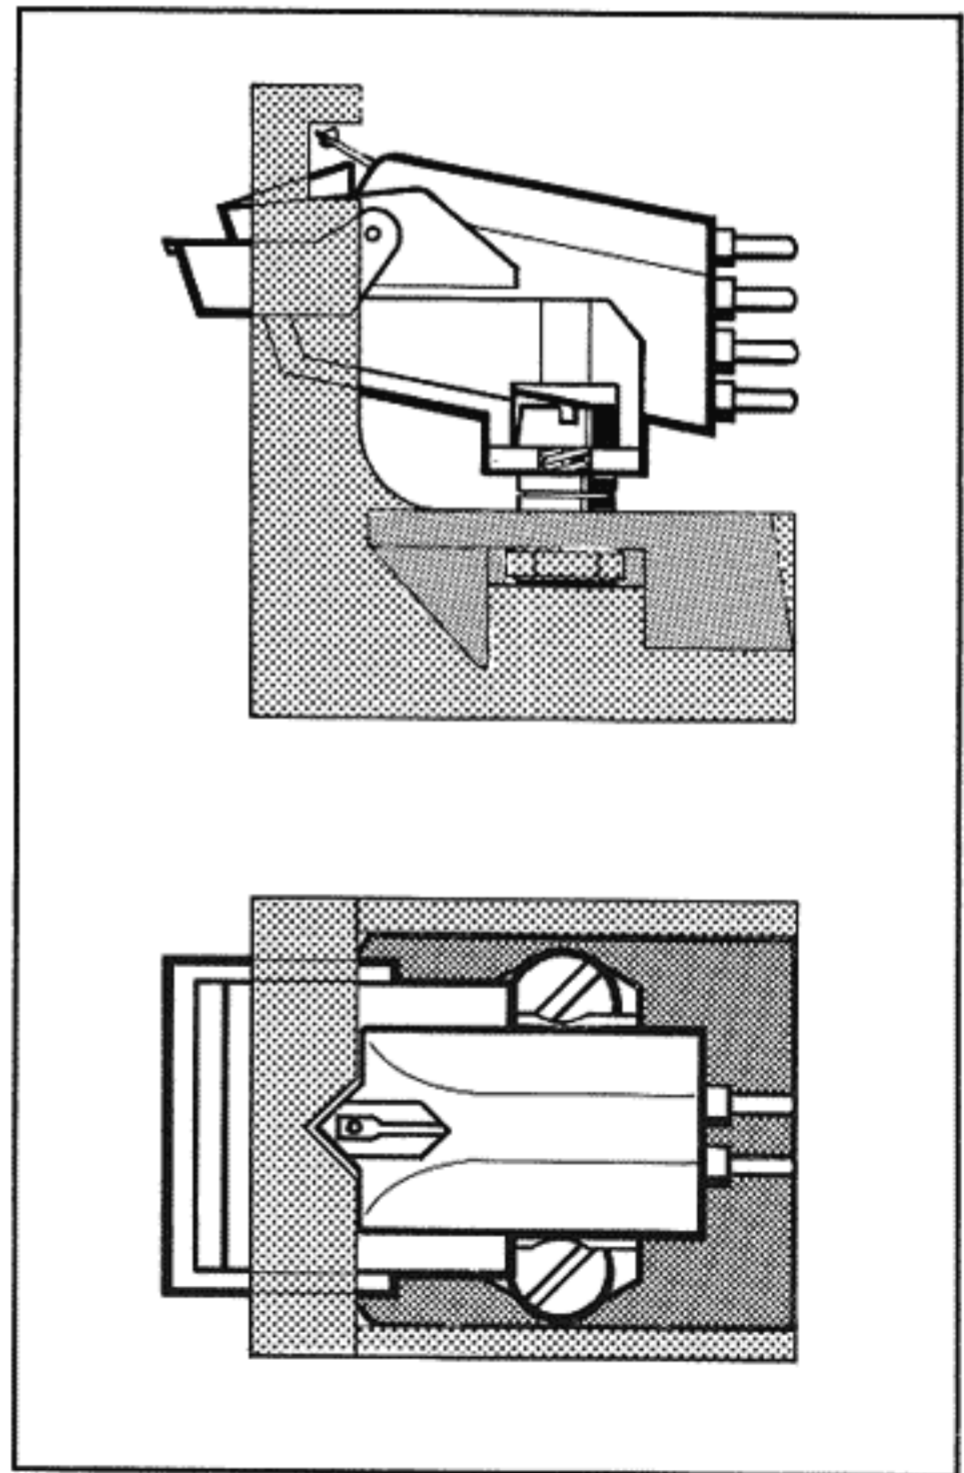

Fig. 7
4. Use the gauge as shown in figure 7 to check the orientation of the cartridge in the mounting plate. Viewed from above, the stylus tip should be in the V-shaped recess of the gauge. Viewed from the side, the stylus should be in the rectangular gap. When the cartridge is correctly positioned, carefully tighten the mounting screws. Then check with the gauge once again to make sure the cartridge has not shifted when being tightened.
7. Secure the cartridge in place by turning the attachment screw clockwise (13).